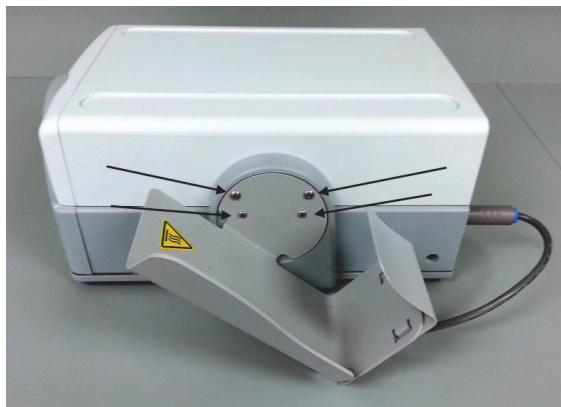

Figure 1
2. Remove Water Bottle Warmer by removing the retaining screws (4). Refer to figure 1.